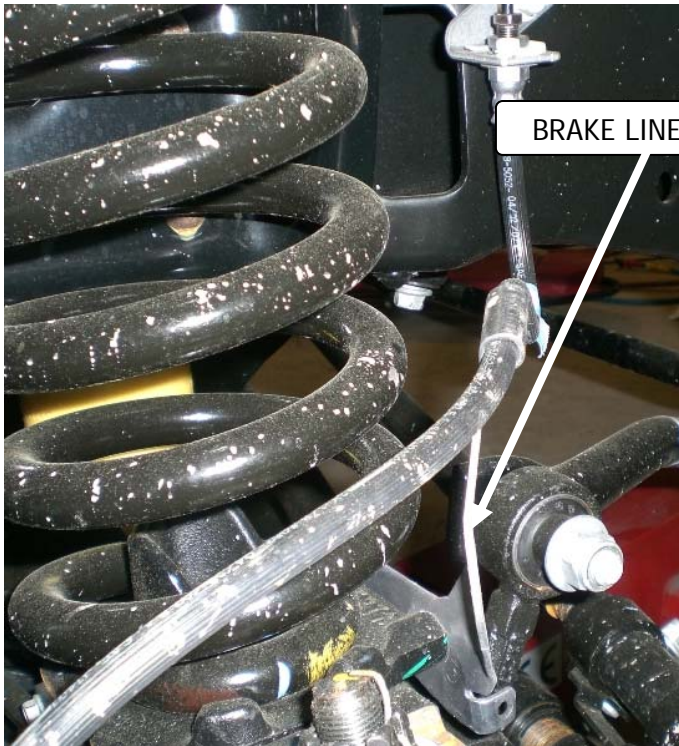

Figure 2
(Refer to Figure 1, Figure 2, and Figure 3)
- b) Bend the brake line support bracket towards the coil spring, leaving a small amount of room between the coil spring and bracket without touching (Figure 2) (Figure 3).